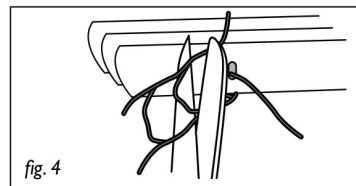
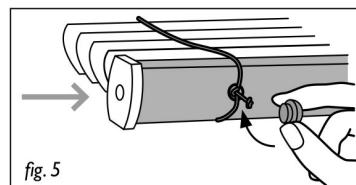

fig. 4
fig. 5
6.7 Knot lift cord directly beneath the bottom weight bar and cut off excess cord [fig. 4]. Allow one extra rung and cut off excess ladder, now tuck remaining ladder into the bottom weight bar cap holes. Then replace the caps [fig. 5].